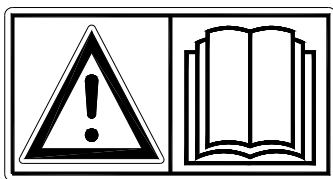

Figure 1
**Read and understand** (Figure 1) the manual *before* you start using the Verti-Top Tow Behind. If the machine is not used as described in this manual, this can result in injuries and/or damage to the Verti-Top Tow Behind.